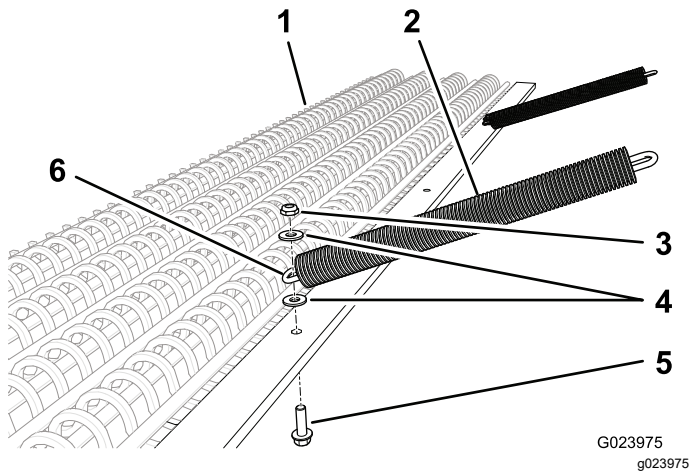

Figure 2
1. Slide a chain sleeve over each chain (Figure 2).
3. Secure the chain to the drag mat with a bolt (3/8 x 1-1/4 inch), 2 washers, and a locknut, as shown in Figure 2.